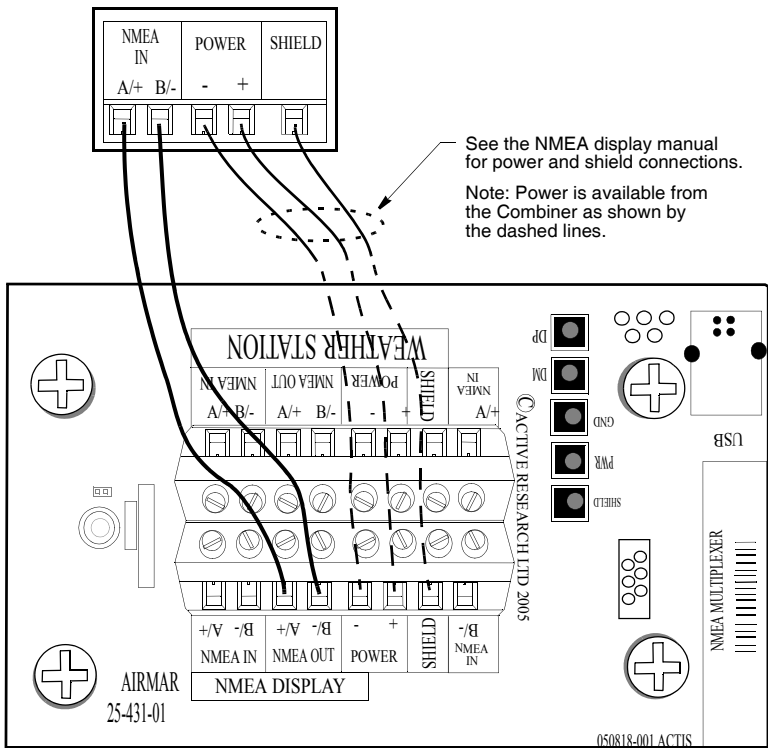

Figure 14. Wiring diagram to connect additional display devices
10. Fasten each wire in turn into the designated AUX NMEA OUT terminal. Loosen the screw, insert the stripped end of the wire into the square hole and retighten the screw. *Be sure the stripped end of the wire is inserted up to its insulation only. Do not* include any insulation inside the terminal. Gently tug on the wire to ensure that it is securely fastened. Repeat this process until all the wires are connected. Refer to the owner's manual that came with the display/sensor and the wiring diagram below (see Figure 14).